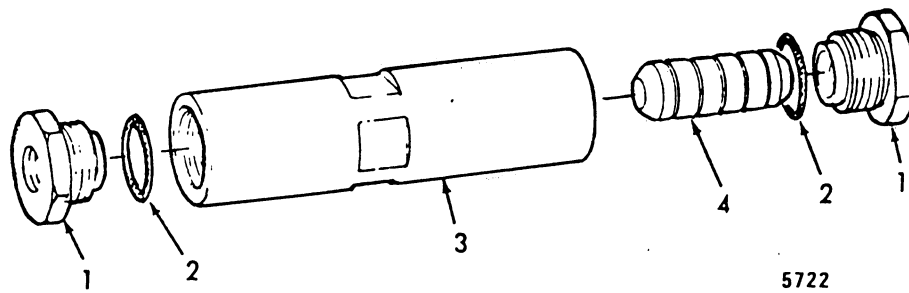
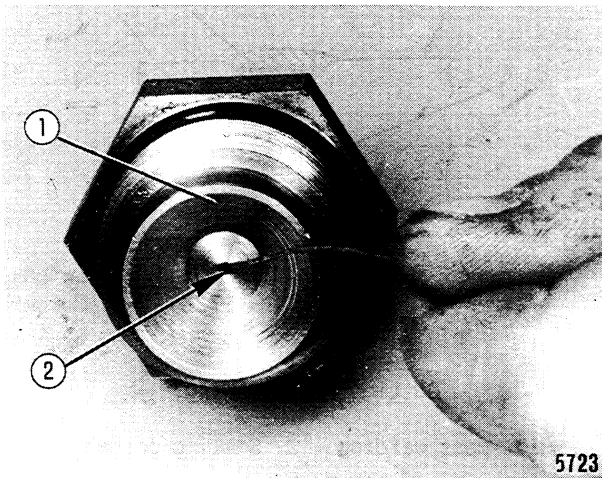

FIG. 6-66 CUSHION VALVE COMPONENTS
FIG. 6-67 CLEANING ORIFICE (2)
The cushion valve (Fig. 6-66) is located on the oil line to the power steering left cylinder.
For this operation, simply separate the two plugs (1, Fig. 6-66) and pull out valve plunger (4). Check that the inner surfaces of valve case (3) are not distorted and that plunger (4) slides freely. Clean accurately the restriction orifices (2, Fig. 6-67) using a thin wire, as shown.
For valve reassembly, reverse the above operations and replace the two seals (2, Fig. 6-66).